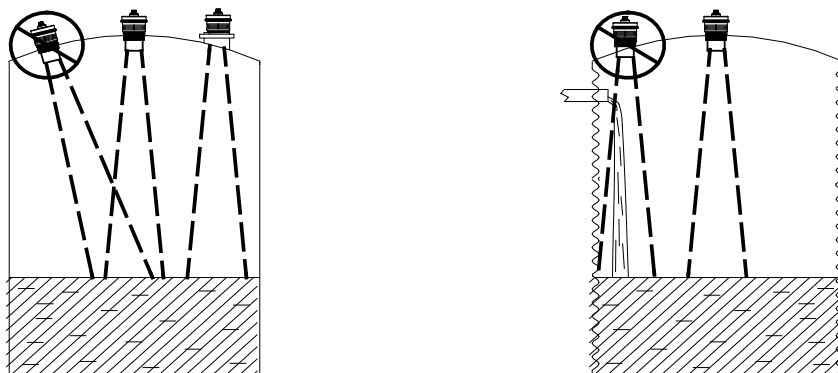

Figure 2.1
- Mount your MNU-IS sensor so that it has a clear, perpendicular sound path to the surface being monitored. Your sensor should be mounted away from tank or vessel walls and inlets. (See Figure 2.1)